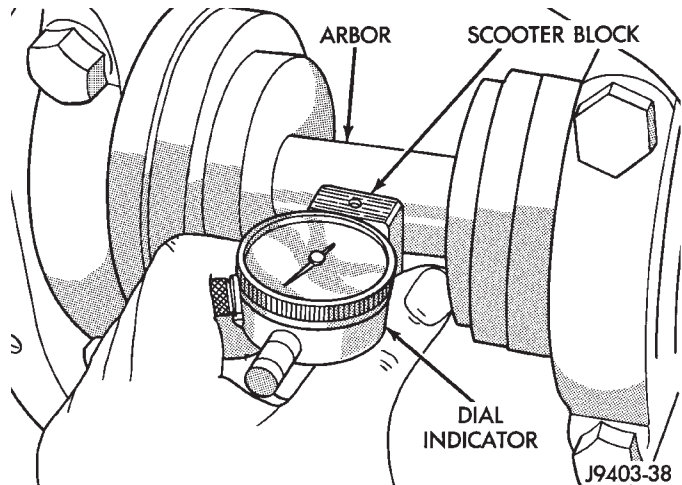

Fig. 69 Pinion Gear Depth Measurement—Typical
(7) With scooter block still in position against the pinion height block, slowly slide the dial indicator probe over the edge of the pinion height block. Observe how many revolutions counterclockwise the dial pointer travels (approximately 0.125 in.) to the out-stop of the dial indicator.
(8) Slide the dial indicator probe across the gap between the pinion height block and the arbor bar with the scooter block against the pinion height block (Fig. 69). When the dial probe contacts the arbor bar, the dial pointer will turn clockwise. Bring dial pointer back to zero against the arbor bar, do not turn dial face. Continue moving the dial probe to the crest of the arbor bar and record the highest reading. If the dial indicator can not achieve the zero reading, the rear bearing cup or the pinion depth gauge set is not installed correctly.